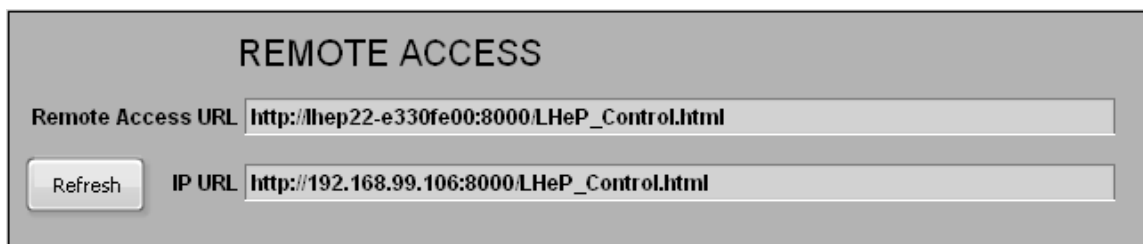

Figure 7-6: Remote Access Box
3. Select **refresh** in the remote access box. **See Figure 7-6.**